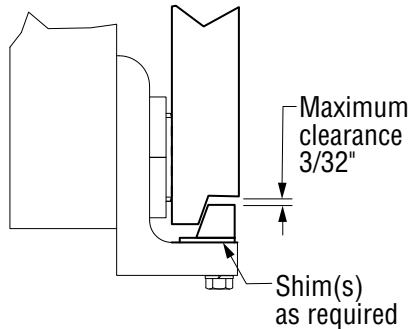

Figure 4-4, Lower Hook Clearance
7. Install the bolt-on lower hooks. Inspect clearance to the carriage on lower hooks. Adjust the lower hooks for a maximum clearance of $3/32$ " (see Figure 4-4). Tighten the bolts to the torque specifications on page 38 (Figure 6-3)